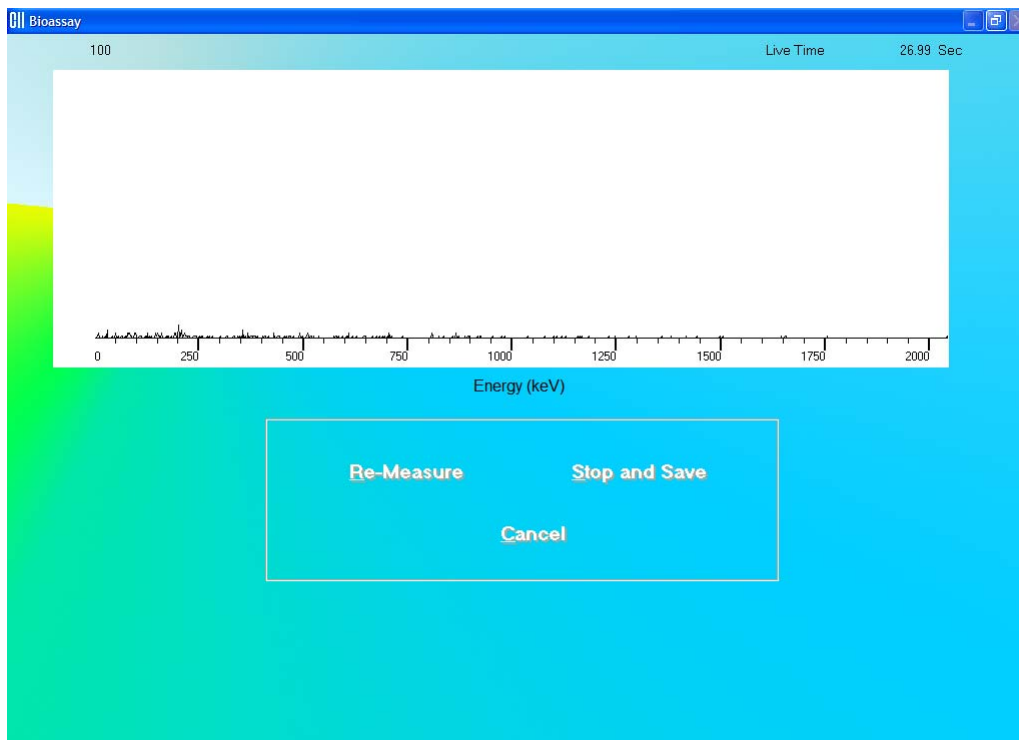
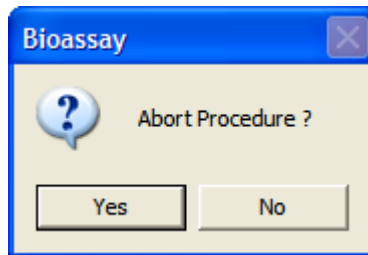

Figure 8-22
Figure 8-24
- a. Verify that there are no radioactive sources in the area and click the  button to measure background counts. The screen appears as shown in Figure 8-22.
To begin counting, click the  button. The spectrum is displayed as shown in Figure 8-22 above. To cancel measurements, click the  button. The screen then appears as shown in Figure 8-24.